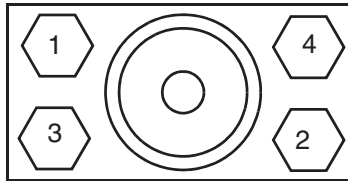

Figure 47. Connector Bolt Torquing Sequence
5. Tighten all connector bolts in steps of 1.4 N•m (1 lb•ft) up to 2.8 N•m (2 lb•ft) per the sequence shown in Figure 47.